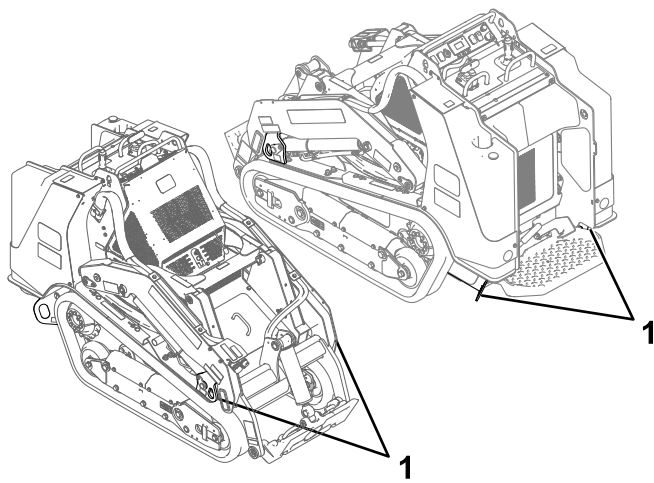

Figure 25
8. Use the metal tie-down loops on the machine to securely fasten the machine to the trailer or truck with straps, chains, cable, or ropes (Figure 25). Refer to local regulations for tie-down requirements.